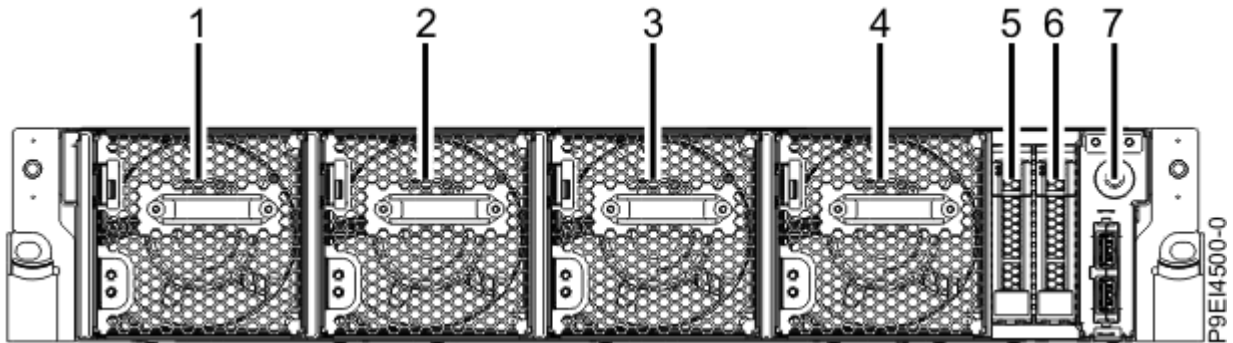

Figure 5. Drive locations; positions 5 and 6
1. Determine the slot in which you want to install a disk drive. The disk drive slots are in the front of the system in positions 5 and 6, as shown in Figure 5 on page 11.